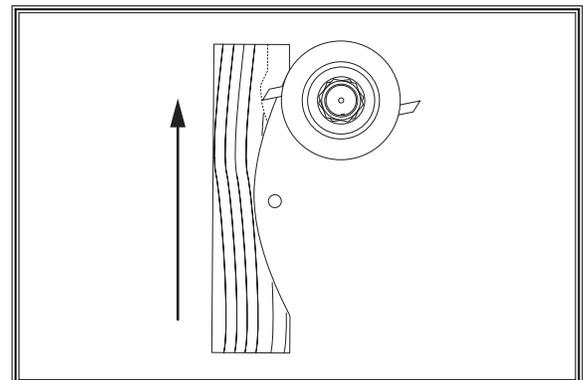

Figure 11. Feeding workpiece against moulding head knife.
11. After workpiece is supported by rub collar, swing workpiece free of starting pin (see **Figure 11**). Always feed against rotation of knives.